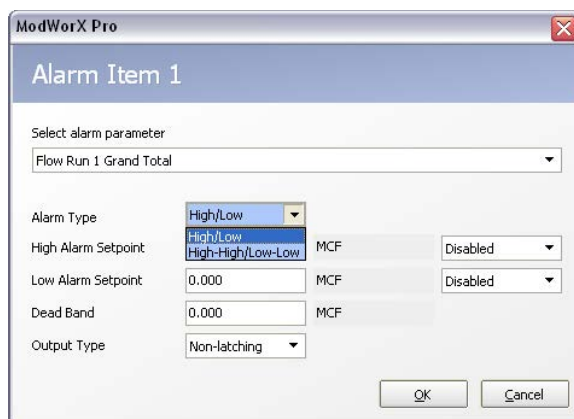

Figure 3.26
1. Click in an Alarm Item space in the Alarm Parameters table and click **Change Parameter**. The Alarm Item dialog (Figure 3.26) will appear, allowing the user to select a parameter, and determine the settings that will determine its function. Those settings include the following: